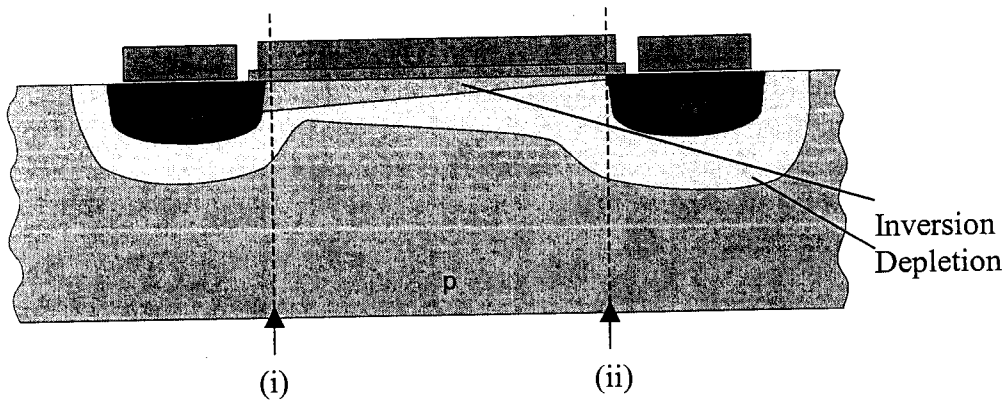

Figure 2.1: Cross section of a biased Si MOSFET.
2. Consider Figure 2.1, which shows a biased Si MOSFET with $V_{GS} > V_{th}$ and $V_{DS} = V_{GS} - V_{th}$.